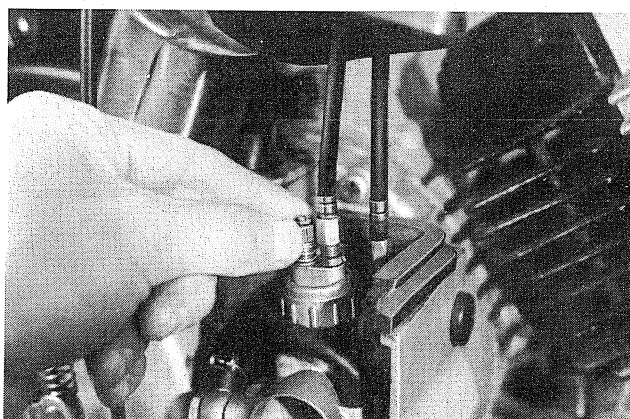

Fig. 3-18-4
- a. Fully tighten the air screw, and keep the engine running at the lowest possible speed, and adjust the throttle stop screw. (Fig. 3-18-4)